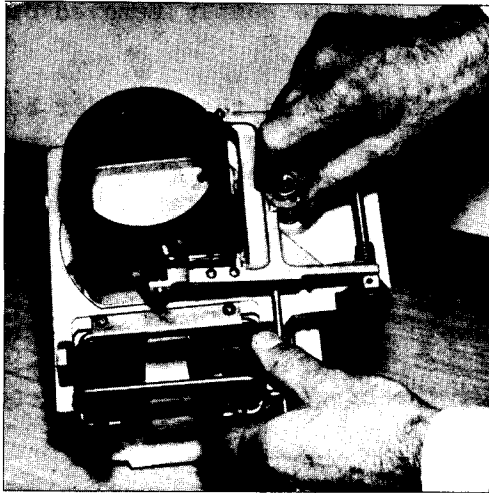

FIGURE 26
- Loosen and unscrew jam nut on vertical rod (FIGURE 26)